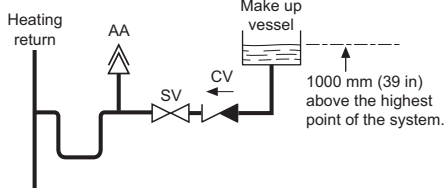

Fig. 3 System Fill
- If the system is sealed then the system must be filled using a WRAS approved filling loop or comply with figure 3 for system fill.
- The expansion vessel (2) must be fitted as close as possible to the appliance in the central heating return.
The central heating sealed system must be filled using a WRAS approved filling loop or comply with figure 3 for System fill.